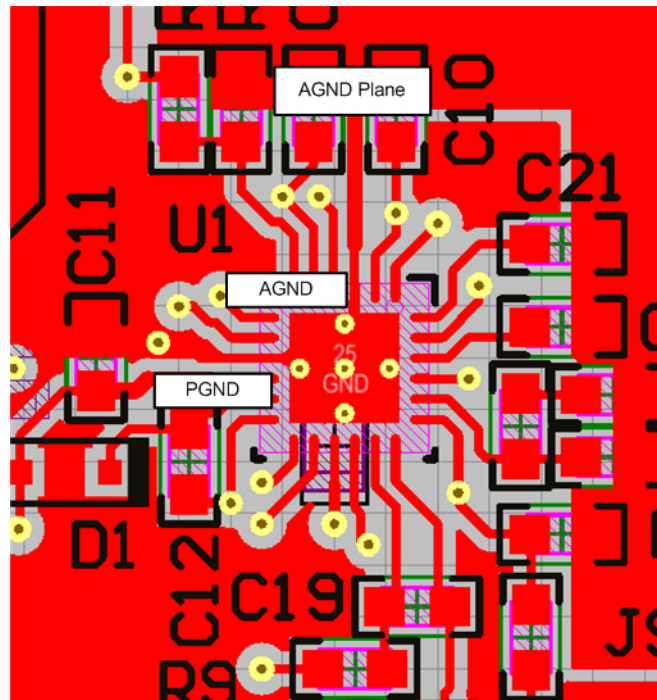

Figure 40. AGND and PGND Connections
- Make the PGND and AGND connections to the LM5141-Q1 controller as shown in Figure 40. Create a power grounds directly connected to all high-power components and an analog ground plane for sensitive analog components. The analog ground plane (AGND) and power ground plane (PGND) must be connected at a single point directly under the IC (at the die attach pad or DAP).